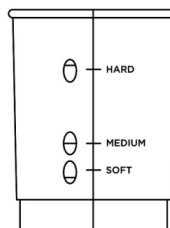

Figure 1
3. Fill the measuring cup (Figure 1) to the appropriate line. For best results, use distilled water- tap water contains minerals that can cause eggs to discolor.